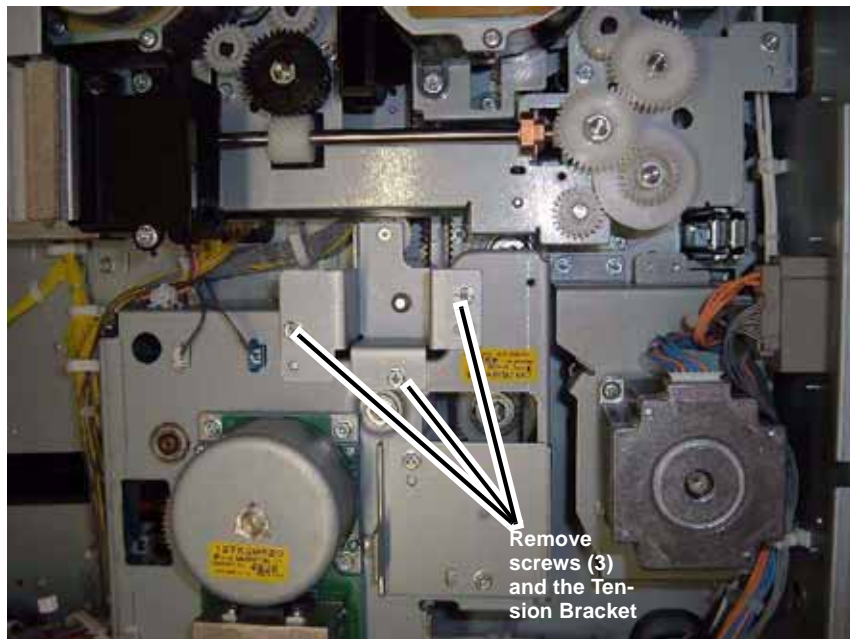

Figure 4 Removing the Tension racket
5. Remove the Tension Bracket (Figure 4).